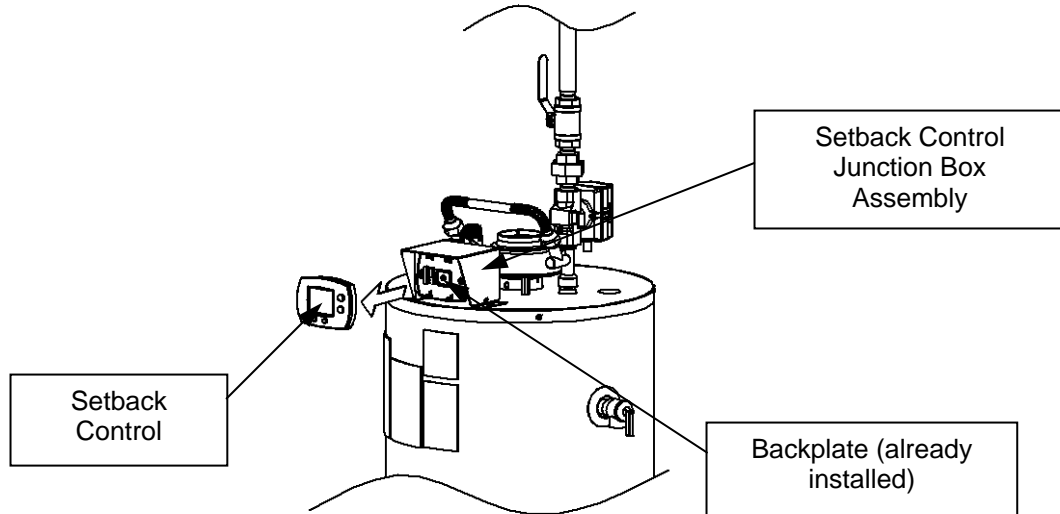

Figure 82
Step 1: Remove the Setback Control from the backplate attached to the Setback Control Junction Box Assembly. Some force may be required. This is shown in Figure 82.